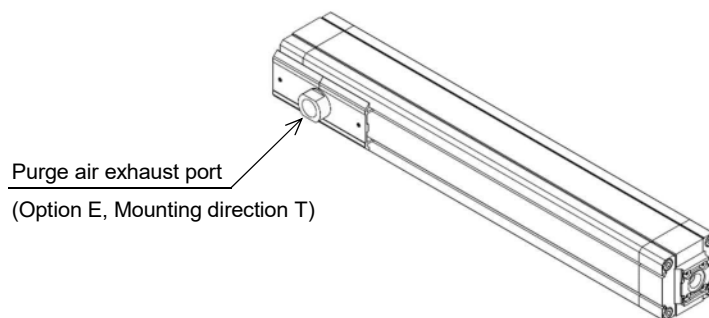

Fig.7
- 5) In case of the option E, piping of exhaust air should use the hose or piping material of I.D. 8.9 mm or more, and give length as less than 2 m. (Refer to Fig.7)